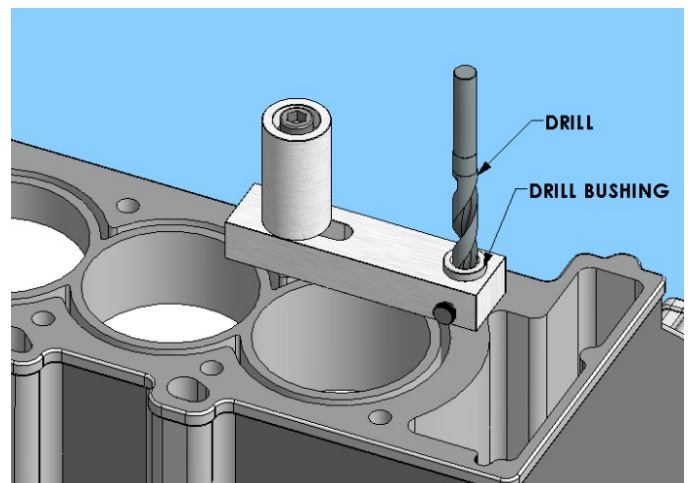

FIGURE 2A
3. **Figure 2A**- Drill the holes using the 17/32" Drill Bit that comes in the kit. Use light penetrating oil to keep the drill lubricated. Retract the drill several times to help clear the chips from the Drill Bits flutes. After you have drilled about 2" deep, you can remove the Drill Bushing from the Jig, then drill the remainder of the hole without it. This will allow for more chip clearance. Drill to the same depth as the original holes. Do not force the drill after it reaches the bottom of the original hole.